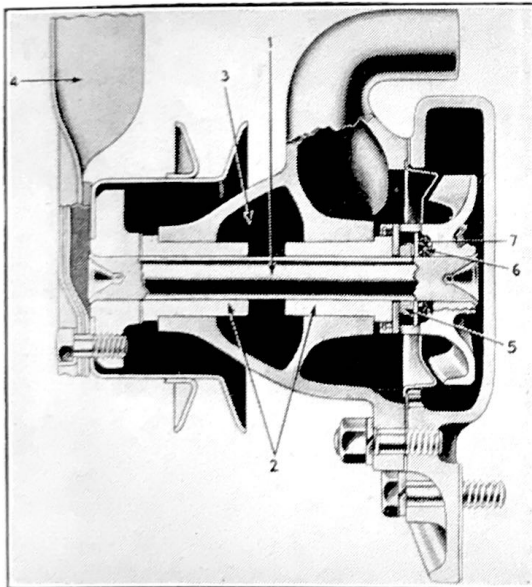

Figure 23
Water Pump is of the six vane impeller, packless type requiring no attention, except periodical lubrication. The water pump shaft (1), Fig. 23, is supported by two large phosphorous bronze bushings (2), lubricated from the large reservoir (3).